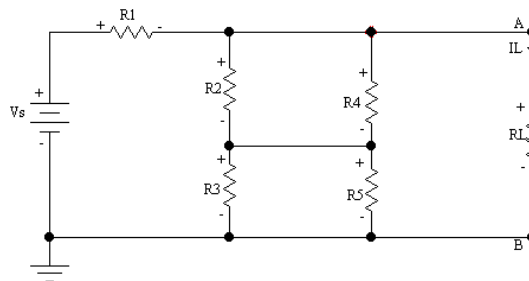

Figure 3.2
2. Using Thevenin equivalent of the circuit to the left of  $R_L$  in Figure 3.2, calculate  $R_{TH}$ ,  $V_{TH}$  and  $I_L$ , with  $V_S = 15$  V,  $R_1 = 2.2$  k $\Omega$ ,  $R_2 = 3.3$  k $\Omega$ ,  $R_3 = 4.7$  k $\Omega$ ,  $R_4 = 6.8$  k $\Omega$ ,  $R_5 = 10$  k $\Omega$ , and  $R_L = 6.8$  k $\Omega$ . Show all computer simulation.
2. Construct the circuit of Figure 3.2, measure  $R_{TH}$ ,  $V_{TH}$ ,  $I_L$ .